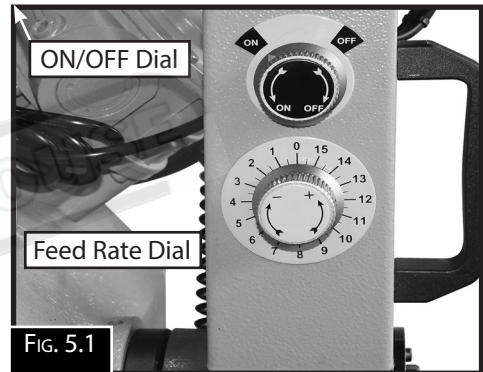

FIG. 5.1
2. Raise the bow saw for access and turn the feed ON/OFF lever to hold the bow saw up. (Fig. 5.1)